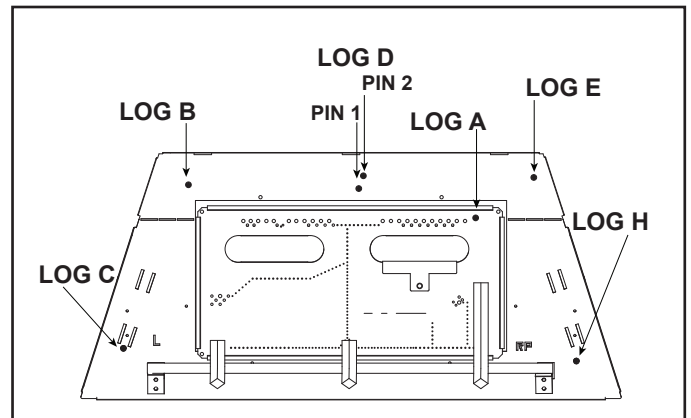
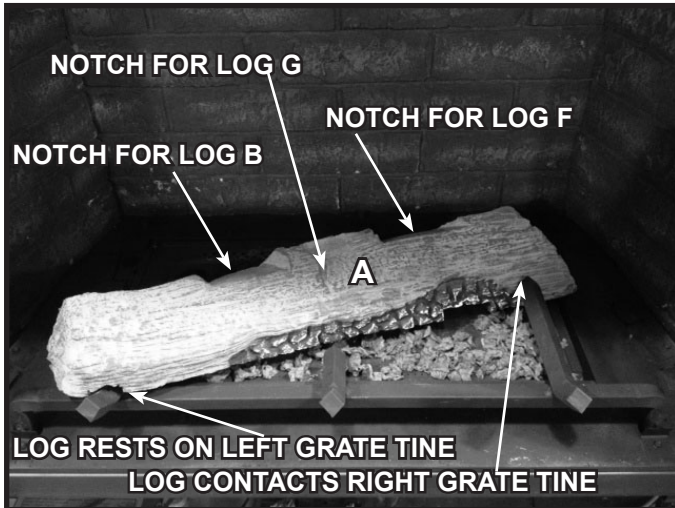
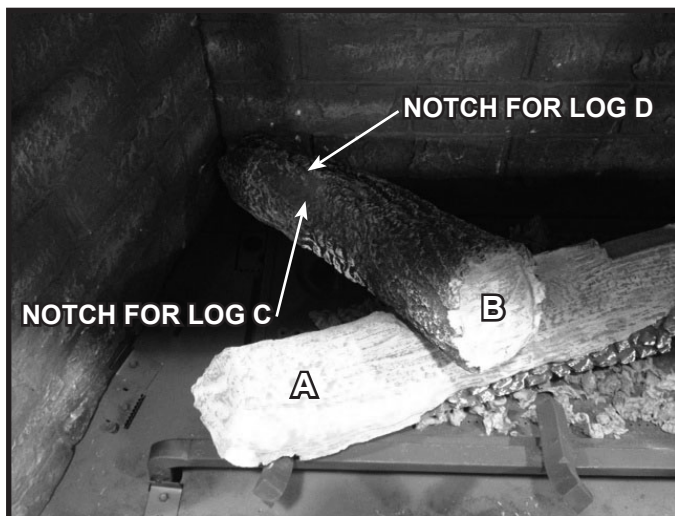
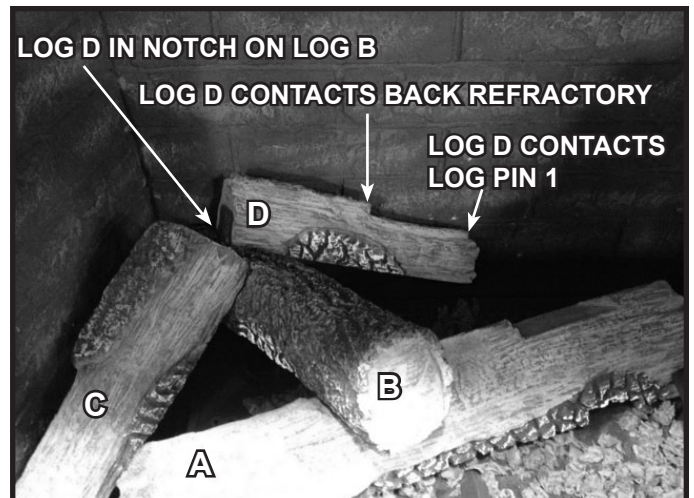

Figure 4. LOGSDBDV36PLAT Log Pin Locations
Figure 5. Log A Installed
Figure 6. Log B Installed
Figure 8. Log D Installed
1. **(LOG A):** Place Log A into appliance as shown in Figure 5. The notch on the bottom of the left end should rest on the left grate tine. The right end of Log A should rest against the rear of the right grate tine, and in front of the "Log A" pin indicated in Figure 4. Slide Log A toward the front of the appliance.
2. **(LOG B):** Locate the pin for Log B on Figure 4. Position Log B in the appliance with the notches in the log toward the rear of the appliance. The log should contact the log pin at the rear. Place the front of Log B in the notch on Log A. See Figure 6.
3. **(LOG C):** Locate the pin for Log C in Figure 4. Position Log C in the appliance with the bark end up and facing the rear of the appliance. The bottom end of Log C should rest against the pin and touch the refractory. The bark end of Log C should rest in the notch on Log B. See Figure 7.
4. **(LOG D):** Locate the pins for Log D in Figure 4. Place Log D in the appliance with the burned out area of that log facing the front of the appliance, as shown in Figure 8. The right side of the log should contact Pin 2, and the left side of the log should rest in the notch on Log B. Log D should contact the back refractory. Log Pin 1 should help stabilize Log D in the event that it would tip forward.